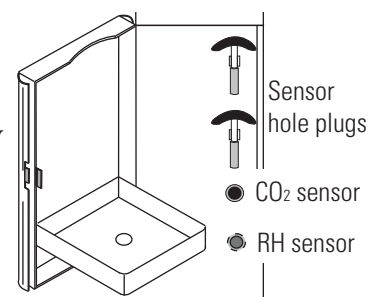

Figure 8-2. Hole Plugs and Sensors
5. Remove the RH and CO₂ sensors. To access the sensors, open the access door containing the humidity system water bottle. (The illustration shows the bottle removed for clarity.) Locate the RH and CO₂ sensors (Figure 8-2).